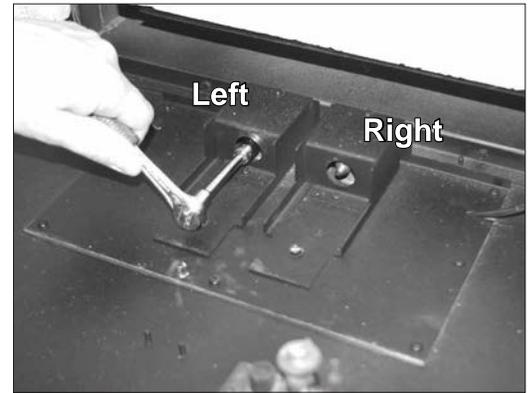

Figure 55: Removing the Gas Orifices.
9. Using a $\frac{3}{8}$ " socket wrench, remove both gas orifices from the orifice mounting brackets at the rear floor of the firebox (Figure 55).